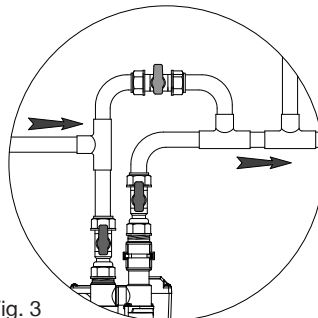

Fig. 3
- It is advisable to fit a bypass pipe and isolating valves. This will allow removal of the pump for maintenance and servicing, and ensure the water supply into the property is still available during that period (Fig. 3).